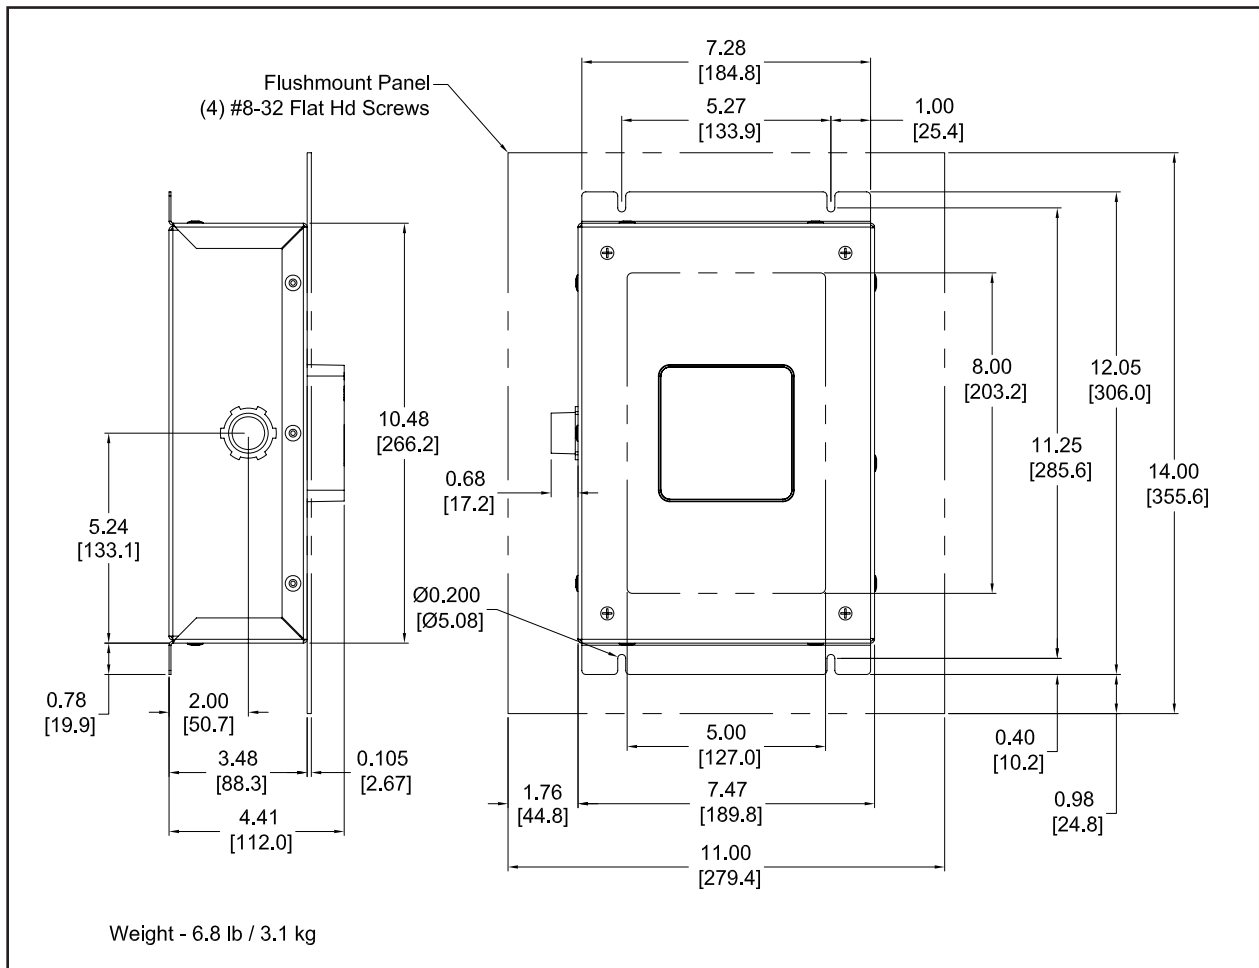

Figure 2. NEMA 1 (With Flushmount) (Suffix L)
1. Before mounting the SPD first determine the ideal location and ensure that the mounting surface is sufficient to support the weight of the SPD (See Figures 2, 3, 4, 5, and 6 on pages 4, 5, and 6 for model weights). The SPD should be mounted as close a possible to the electrical enclosure and as close as possible to the wiring connection point within the enclosure. This will ensure a minimum wire length and maximum SPD performance.
2. Lay out the four enclosure mounting holes using the enclosure dimensions provided in Figures 2, 3, 4, 5 and 6 on pages 4, 5 and 6. Drill the appropriate holes per the product dimensions. **Note:** NEMA 1 enclosures require a #10 fastener and NEMA 4 and 4X enclosures require a 1/4 inch fastener.